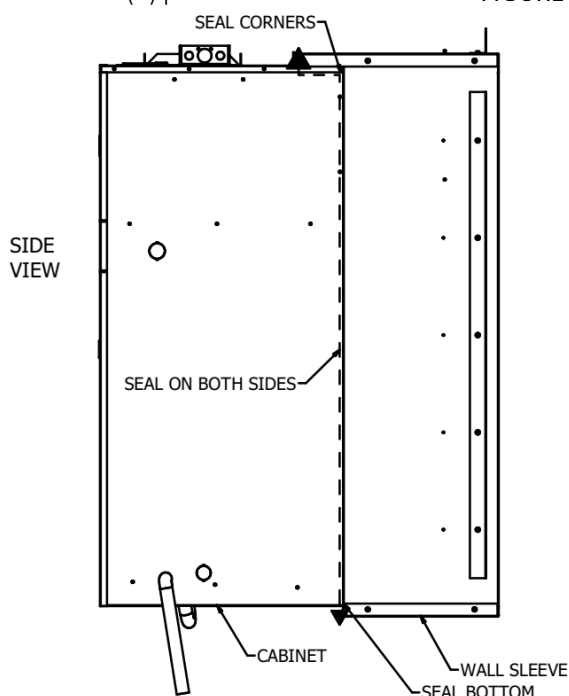

FIGURE 13 - Wall Sleeve Seal
2. Attach the top mounting bracket to the unit with screws (5) provided with unit. Refer to **FIGURE 13 -**
7. Inspect the sleeve seal, which is supplied with the sleeve, to ensure that it is properly secured and aligned (see **FIGURE 13 - Wall Sleeve Seal**).